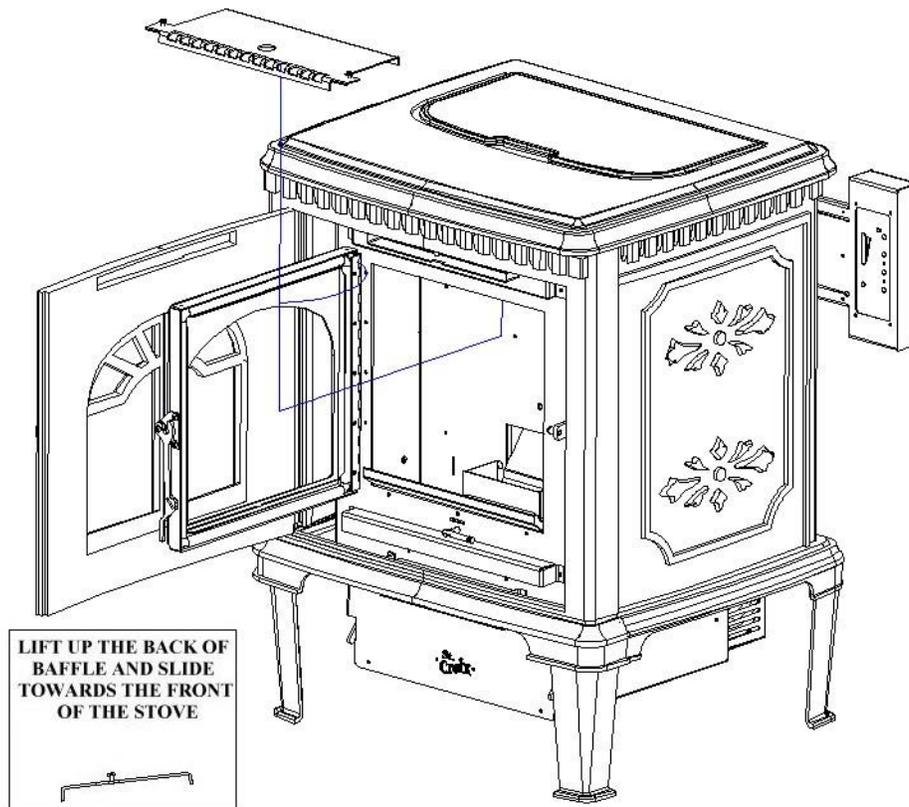

Figure 10
4. **Heat Exchange Baffle.** Remove the baffle and clean the ashes that accumulate on a regular basis. Once a month or sooner, depending on the quality of fuel being used (See Figure 10 on Page 17)
Figure 10 shows how the baffle is removed from the Stove. Clean the baffle on a regular basis. Frequency of cleaning depends on amount of fuel being burnt and the quality of the corn. **Failure to clean the Baffle can cause the stove to become plugged with Fly Ash.**